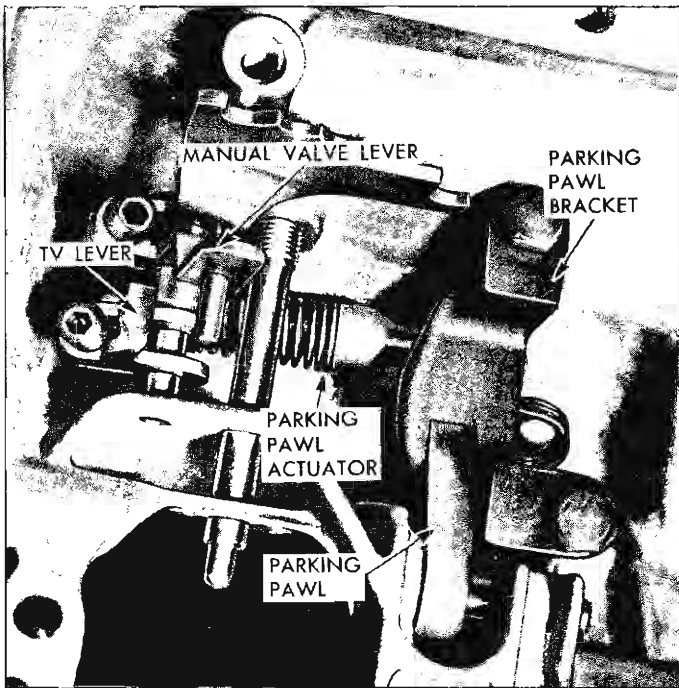

Fig. 17—Inner Control Levers, Parking Pawl and Bracket
26. If necessary, the TV, shift and parking actuator assembly levers, and the parking pawl and bracket (fig. 17) may be removed.